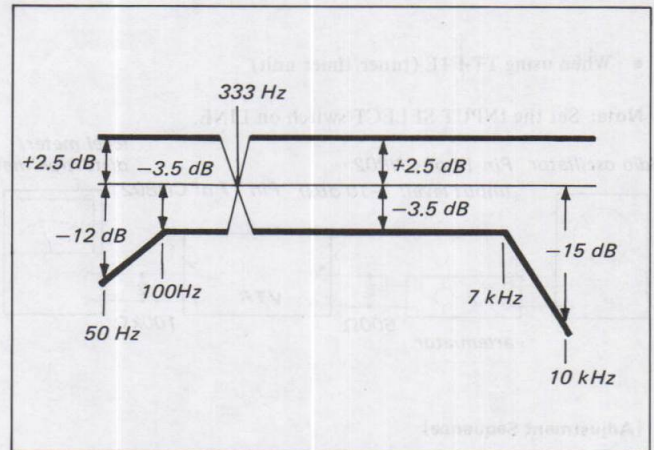

Fig. 5-5-3. Overall frequency characteristic
- (1) Connect TP007 and TP004 (GND) with a jumper wire so as to turn off the AGC operation.
- (2) Connect a 333 Hz signal.
- (3) Set up the E-E mode and adjust the oscillator output level so that the level meter reading is -25 dB.
- (4) Record signals.
- (5) Change the frequency to 50 Hz, 100 Hz, 5 kHz and 7 kHz and repeat Steps (3) and (4).
- (6) Play back the recorded section of the tape and verify that the level is within the specification. (See Fig. 5-5-3).